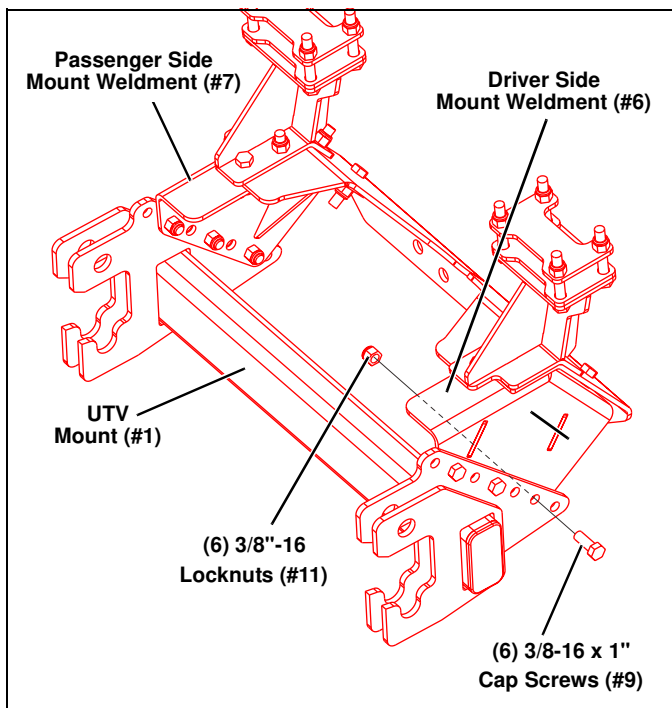

Figure 8
12. Attach the UTV Mount (#1) to the Driver and Passenger Side Weldments (#6 and #7) with (6) 3/8"-16 x 1" Cap Screws (#9) and (6) 3/8"-16 Locknuts (#11) (three on each side). (See Figure 8.)